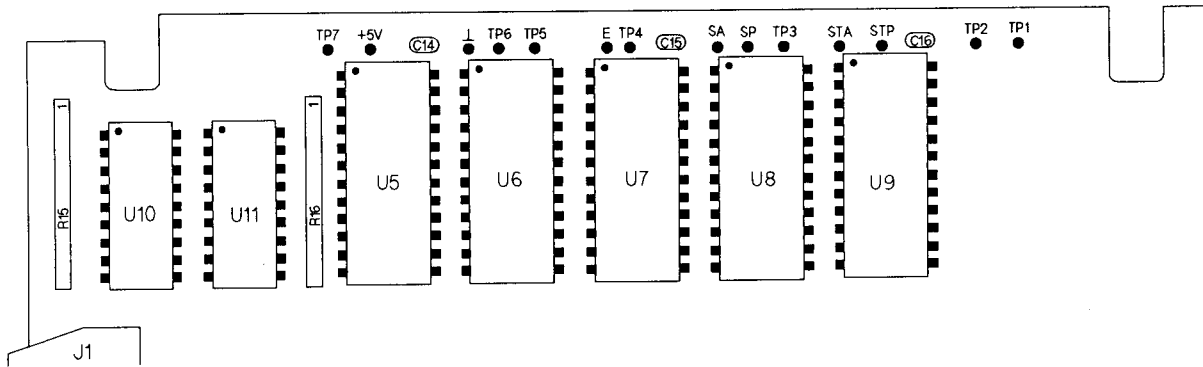

Figure B-2. 08116-66523: U10, U11 layout
- Figure B-2 shows the location of the RAMs U10 and U11 on the microprocessor board 08116-65503. Modify Chapter 10.7, Figure 10.7-9 accordingly.